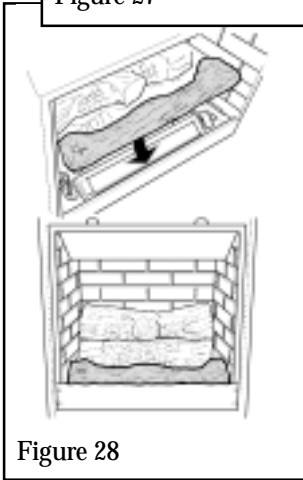

Figure 28
3. Place the front log behind the metal lip at front of the firebox. See figure 28.